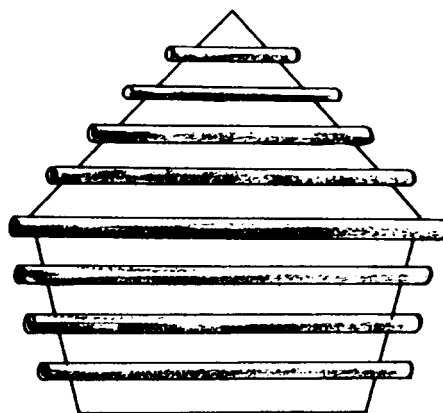
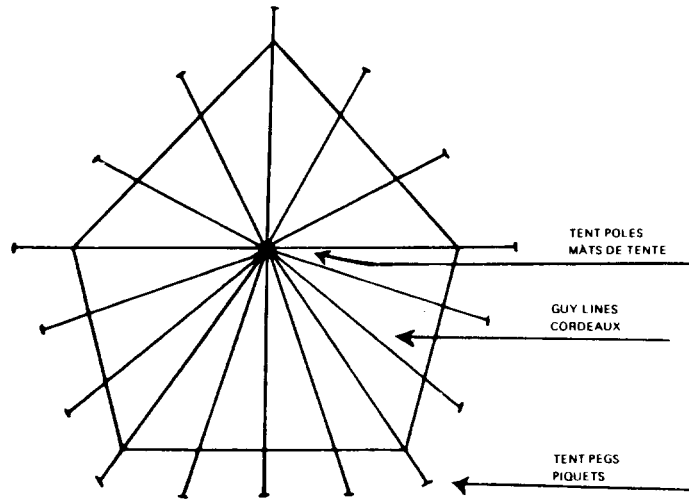

Figure 3-17 Tent Roof Shelter - Stage 2
Figure 3-18 Tent Roof Shelter - Stage 3
- d. Place on roof supports. This can be done by laying logs across the hole. About 10 logs will be required (see Figure 3-17) or if no logs are available, remove the pole and guy ropes from the tent and with the pole upright in the centre of hole, tie all the guy ropes to the top of the tent pole and extend them out around the hole in a wagon wheel fashion (see Figure 3-18). The top of the pole should not extend above the surface of the snow.